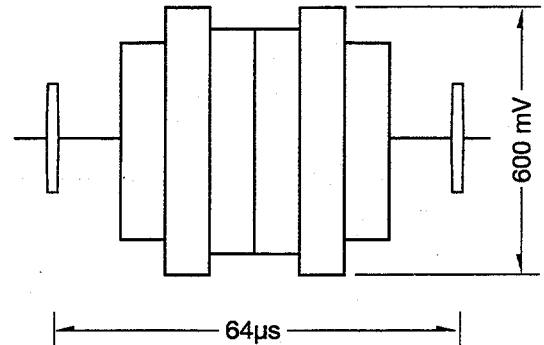

Fig. 9
4. Adjust T802 to the waveform max ($\sim 800\text{mv}$ p-p) and then advance, to achieve the waveform for about 600mV p-p, as showed in Fig. 9.